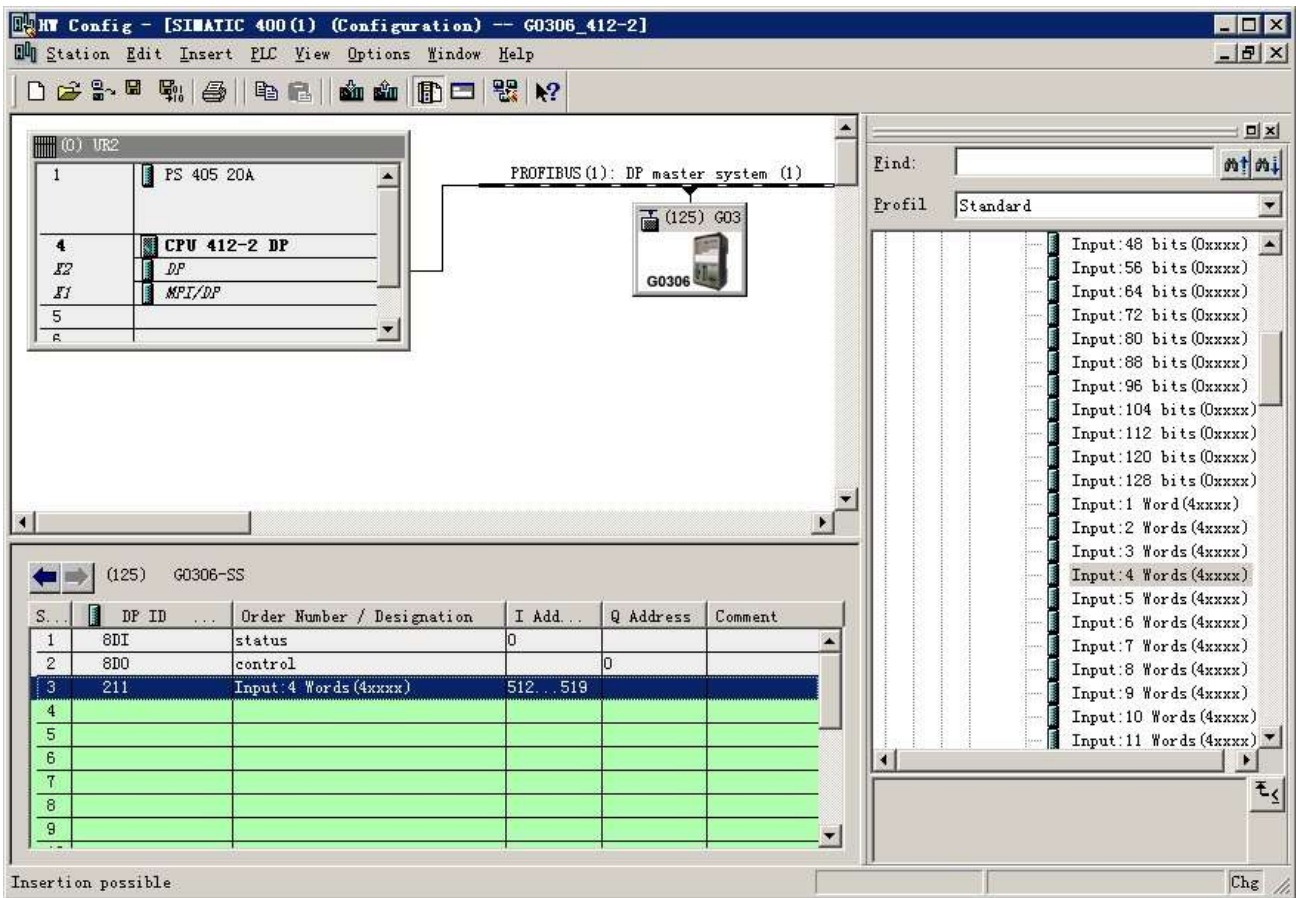

Figure 46 Add "Input:4 Words(4xxxx)" module
a) Add "Input:4 Words(4xxxx)" module, as shown in Figure 46: